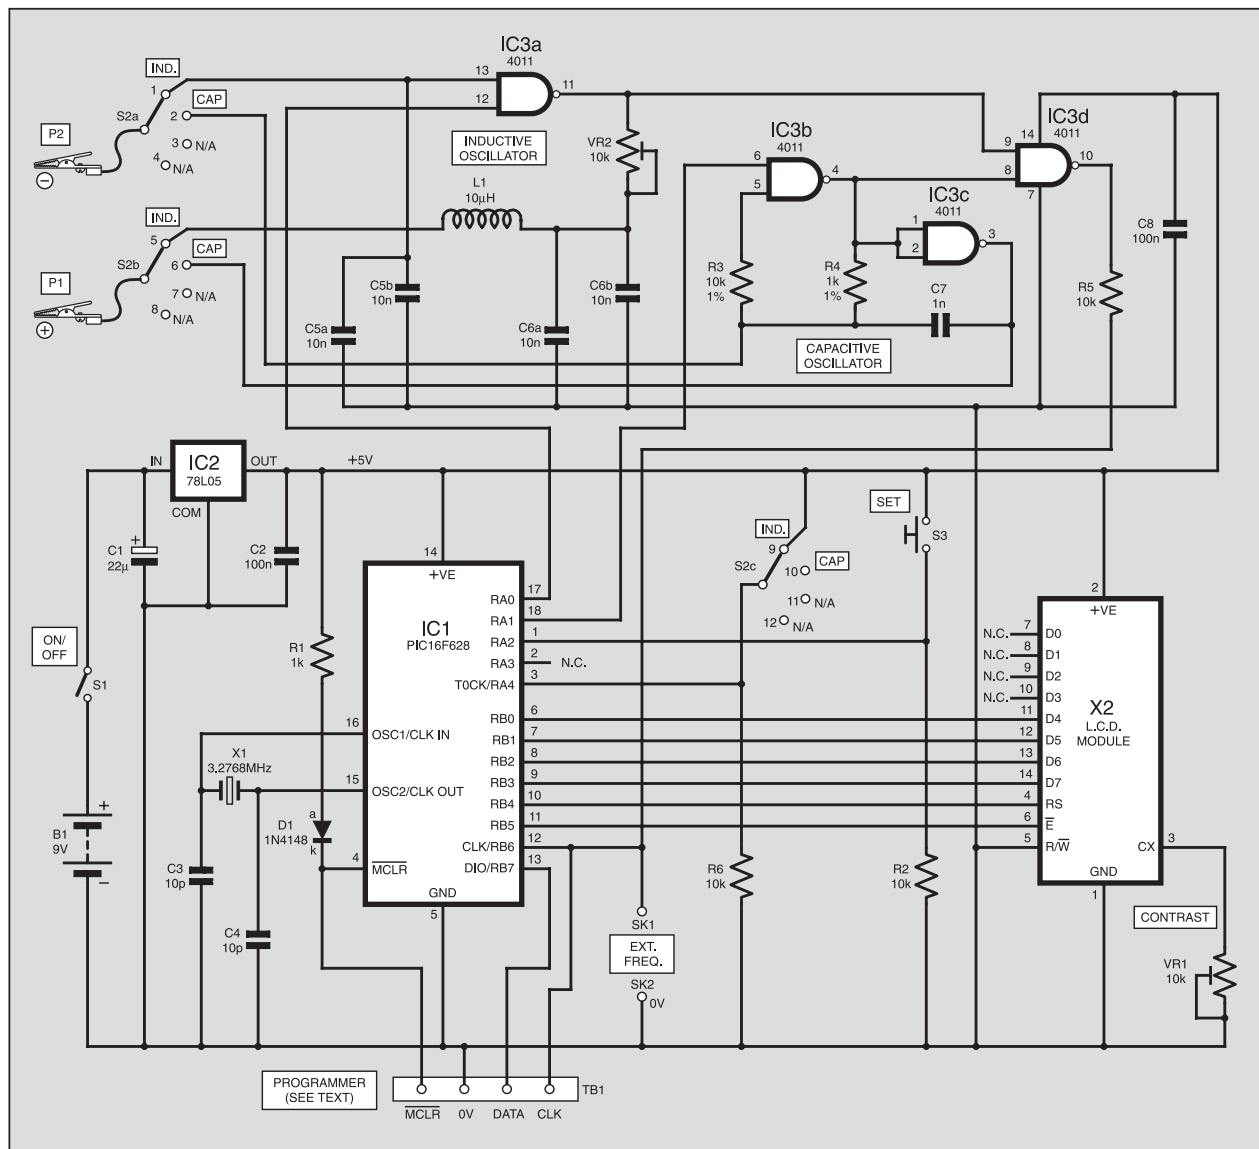

Fig.3. Complete circuit diagram for the PIC LCF Meter.
Referring to the full circuit diagram for the PIC LCF Meter in Fig.3, two independent oscillators are used, one based on inductance and capacitance (LC) values, the other on capacitance and resistance (CR) values.